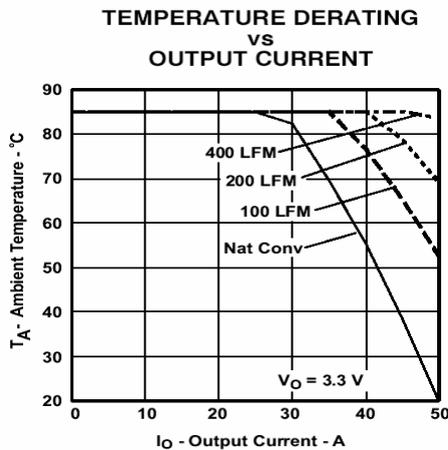
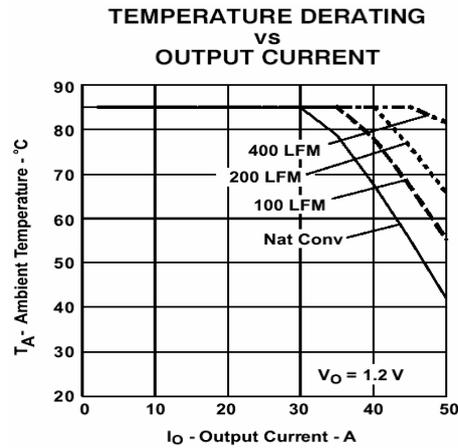

Figure 3
Figure 4
- (2) The temperature derating curves represent the conditions at which internal components are at or below the manufacturer's maximum operating temperatures. Derating limits apply to modules soldered directly to a 4-mm x 4-mm, double-sided PCB with 1-oz. copper. For surface mount packages (AS and AZ suffix), multiple vias (plated through holes) are required to add thermal paths around the power pins. Please refer to the mechanical specification for more information. Applies to Figure 3 and Figure 4.